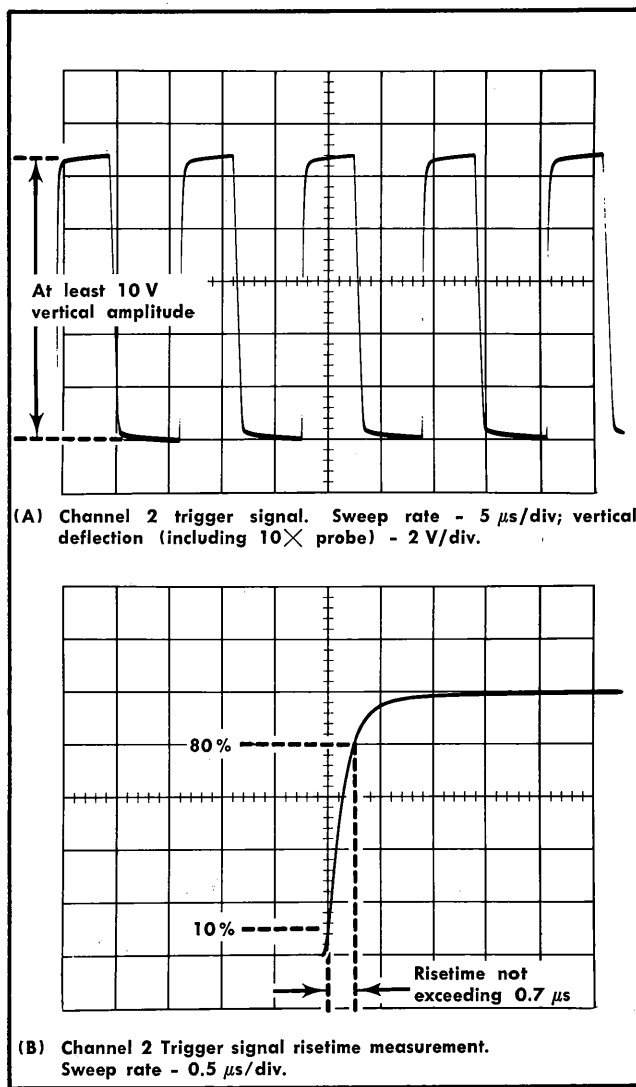

Fig. 5-16. Channel 2 trigger waveforms for step 18.
k. CHECK—Channel 2 trigger signal amplitude. The display on the Test Oscilloscope should have 10 V or greater vertical amplitude, as in Fig. 5-16 (A).
l. Set the Test Oscilloscope Volts/Div and Variable Gain controls as necessary to obtain exactly 5 divisions of vertical display. Then set its Time/Div control to 0.5 μ s/Div. Adjust the Test Oscilloscope triggering and position controls as necessary to position the display for convenient risetime measurement as in Fig. 5-16 (B).
m. CHECK—Channel 2 Triggering Signal risetime. The time required for the trace to rise between the 10% and 80% amplitude points (with respect to the pulse base line) should not exceed 0.7 μ s, as illustrated in Fig. 5-16 (B).